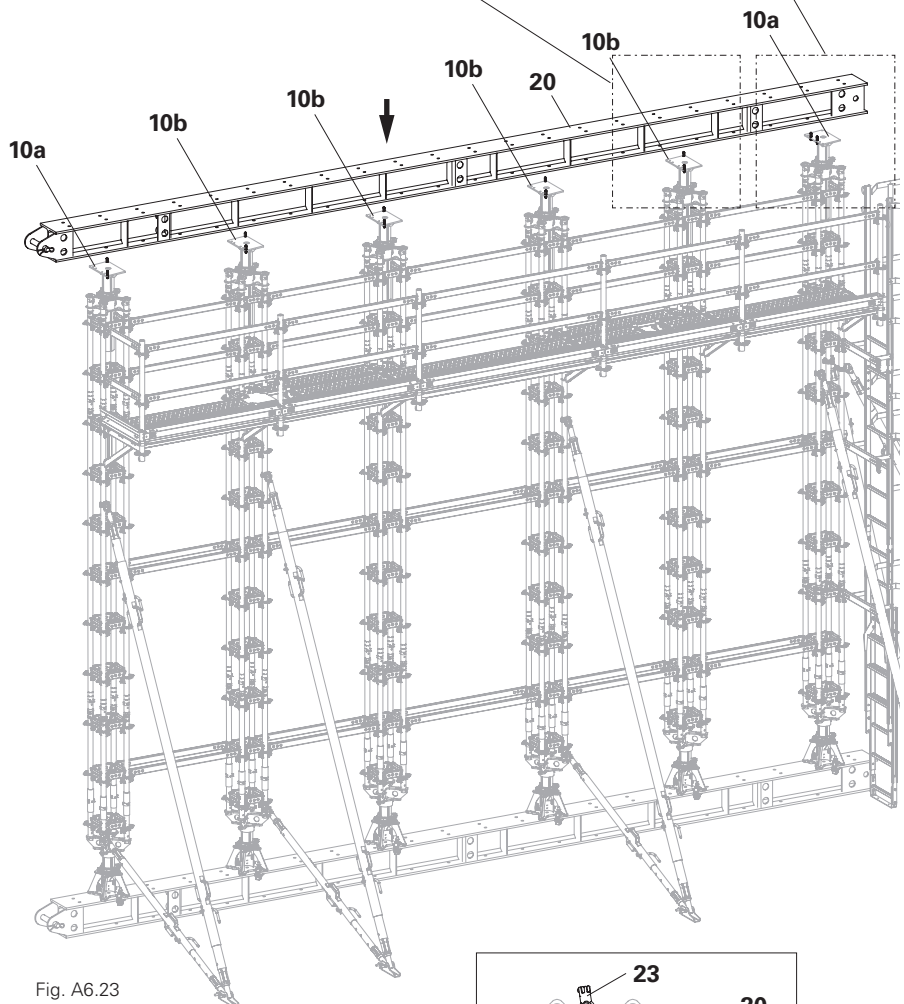

Fig. A6.23
1. Attach the main beam (20) with a round sling to prevent it from slipping.
2. Place the Main Beam HDT on the primary props (10a). (Fig. A6.23)